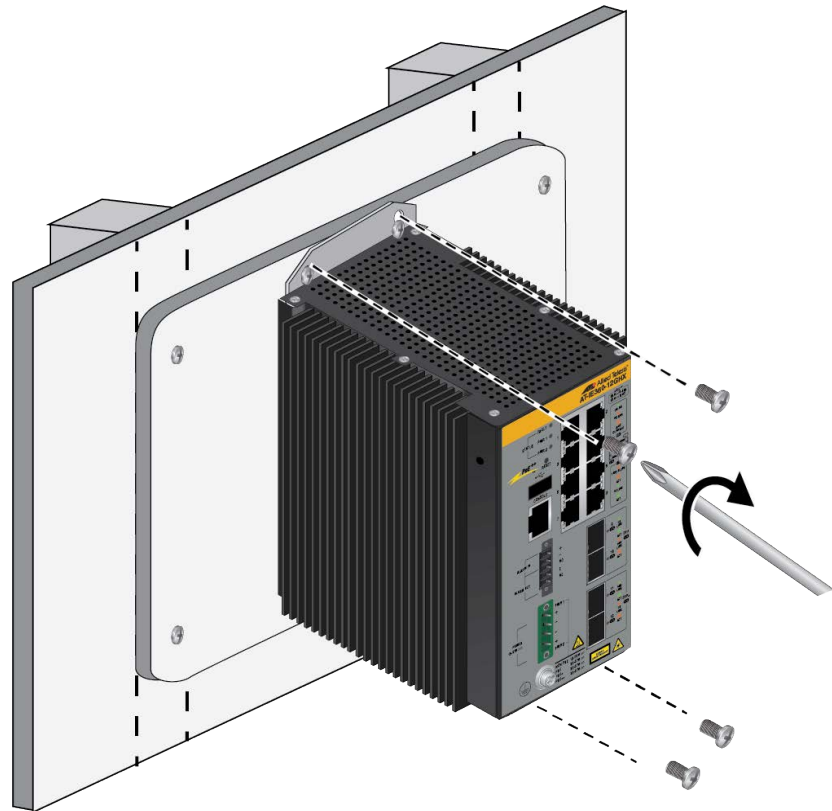

Figure 37. Attaching the Switch to the Plywood Base
6. Have another person hold the switch on the plywood base on the wall while you secure it with four screws (not provided). Refer to Figure 37 on page 87.
- ❑ The switch must be oriented as shown in Figure 37. Do not install the switch horizontally or upside-down.